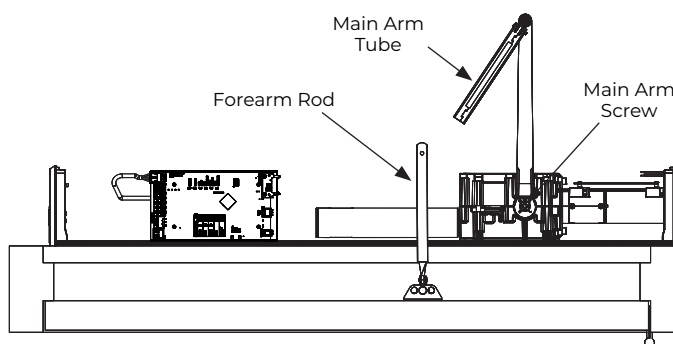

Figure 12 View: Looking up from floor
1. Using hex wrench, secure main arm to bottom pinion with 1/4-20x 1/2" screw. (Figure 12)
2. Slide main arm tube onto forearm rod. (Figure 12)